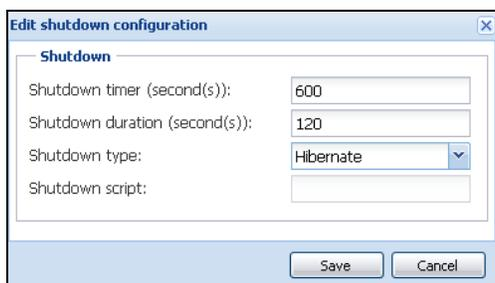

Figure 121. Edit Shutdown Configuration Dialog Box
- The IPM default configuration is available from **Settings > Shutdown > Edit Shutdown Configuration** (see Figure 121).